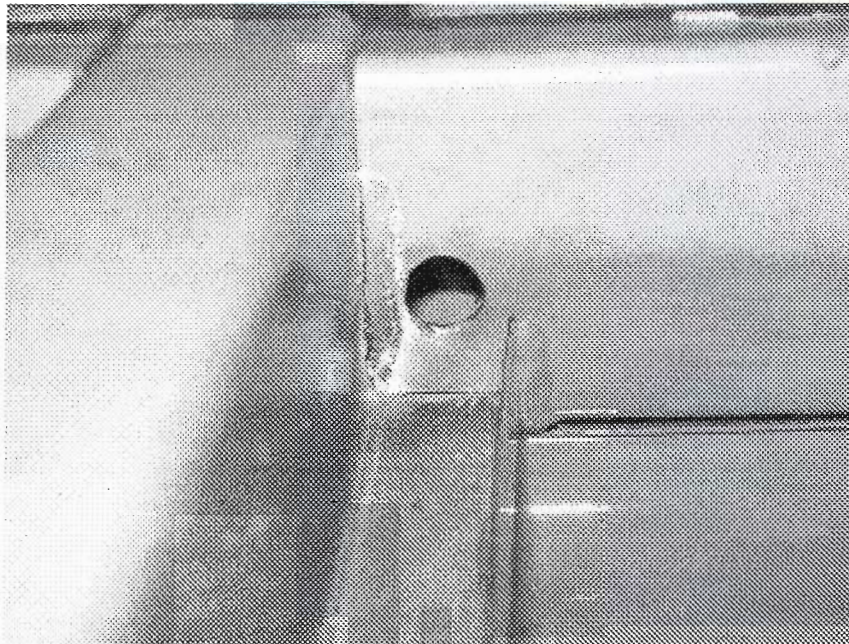

FIGURE 4
9. Inside the pilaster flange, on the handle side of the window, **(taking care to keep drill from contacting any wiring that may be above the window header)** drill a 0.375 dia. hole in the header of the new push-out window location. Figure 4